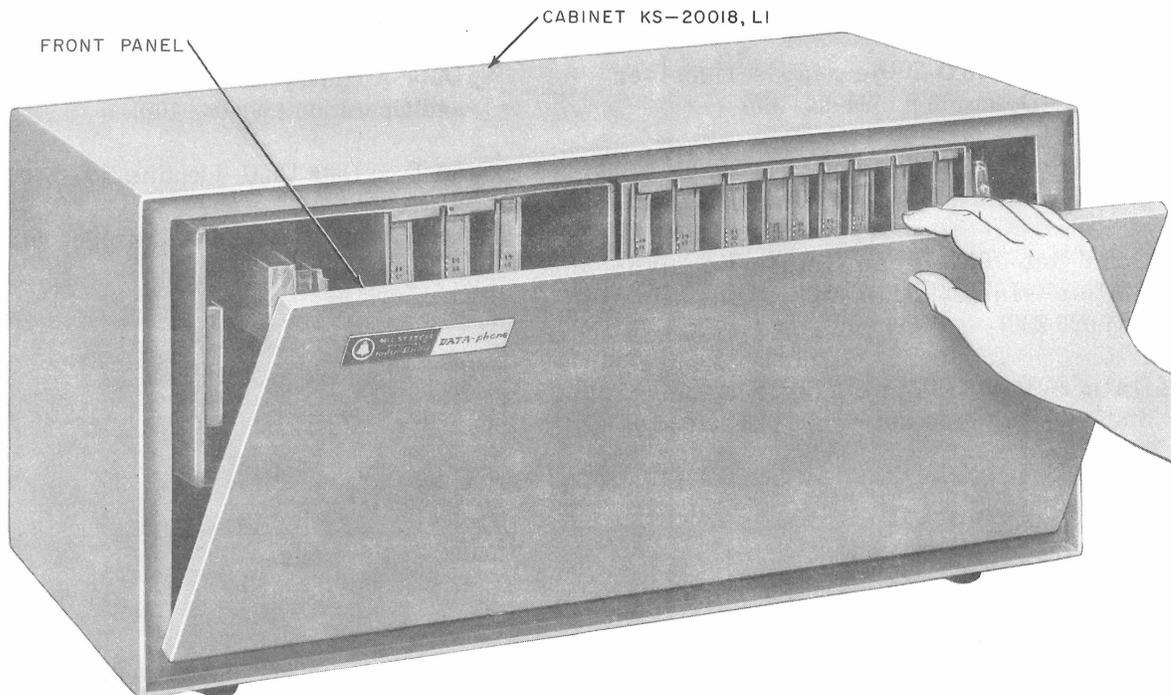

Fig. 1—Removing Front Panel of Data Set 403E-Type
2.02 The front and rear panels of the cabinet are held in the closed position by two spring-lock catches (Fig. 1). Either panel may be removed